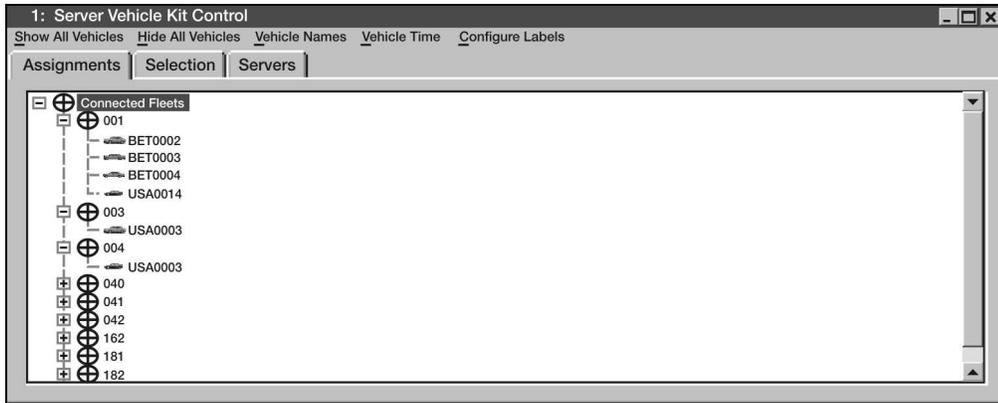
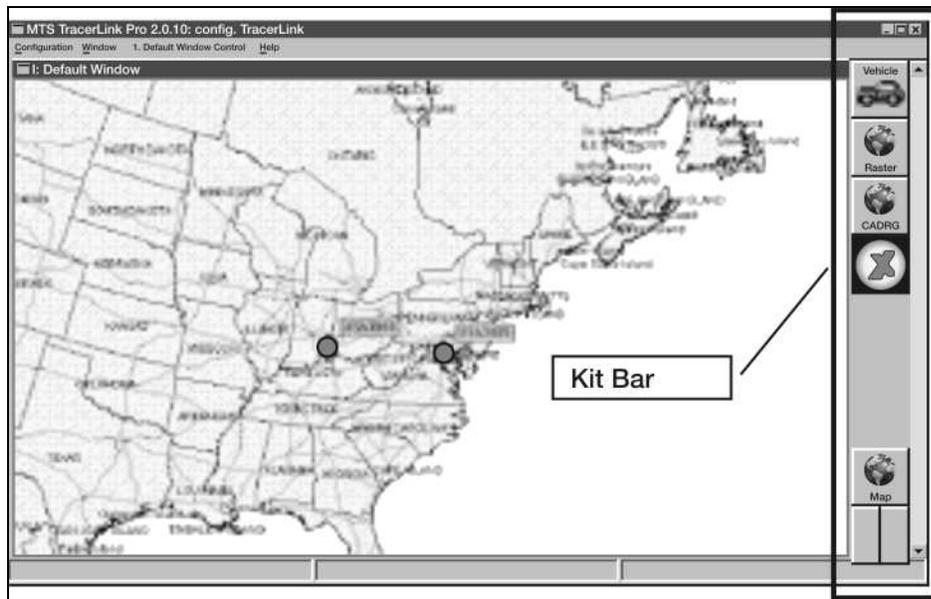
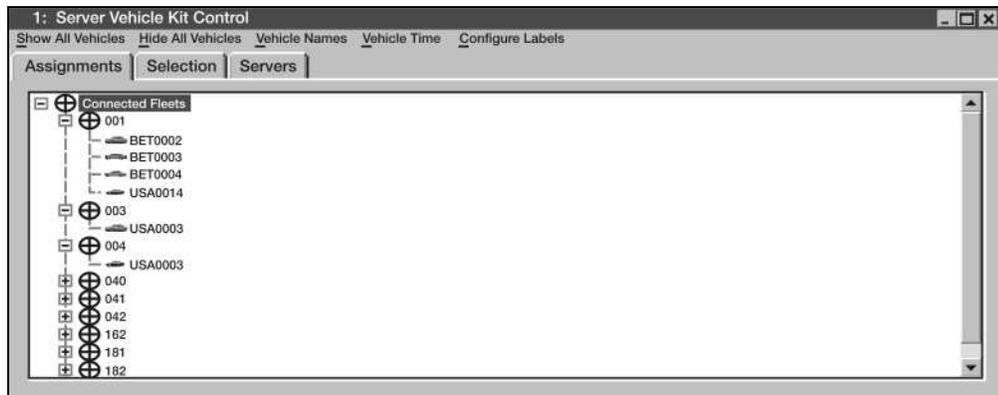

Figure 3-39. Server Vehicle Kit Control Window
Figure 3-40. Kit Bar
Figure 3-41. The Assignments Tab
- c. Navigate through the Server Vehicle Kit Control Window. Use the Server Vehicle Kit Control Window (see Figure 3-39) to trace a vehicle's route, hide a vehicle or display a vehicle that was previously hidden, or hide/display a vehicle's name and last position report time.
- (1) Display the Server Kit Control Window.
- (b) Method two. Slowly slide the cursor off the screen to the right side of the map. When you approach the edge of the map the Kit Bar will appear (see Figure 3-40).
- (2) Display information in the Server Kit Control Window.
- (a) The Assignments Tab. Click on the Assignment Tab to display vehicle information in a hierarchical fleet view (see Figure 3-41).